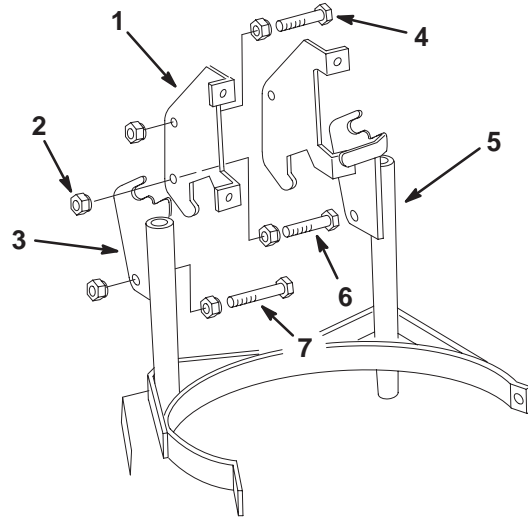

Figure 15
6. Thread locknuts partway onto the 3/8"-16 x 1-3/4" (44 mm) and 3/8"-16 x 2-1/4" (57 mm) spring anchor bolts, and onto the 3/8"-16 x 1-1/4" (32 mm) top bracket pivot bolts (Fig. 15).
7. Insert the 3/8"-16 x 1-3/4" (44 mm) upper spring anchor bolts, and the 3/8"-16 x 1-1/4" (32 mm) top bracket pivot bolts into the holes in the upper pivot brackets with the heads facing toward the inside (Fig. 15).
8. Install a second (outer) locknut on each of the four bolts so it is flush with the end of the bolt (Fig. 15).
9. Tighten the inner locknuts on the 3/8"-16 x 1-1/4" (32 mm) top bracket pivot bolts to fasten the bolts to the upper pivot brackets. Leave the inner locknuts on the 3/8"-16 x 1-3/4" (44 mm) upper spring anchor bolts loose (Fig. 15).
10. Insert the 3/8"-16 x 2-1/4" (57 mm) lower spring anchor bolts into the holes in the lower pivot brackets with the heads toward the inside (Fig. 15).
11. Install a second locknut on each of the two 3/8"-16 x 2-1/4" (57 mm) lower spring anchor bolts so it is flush with the end of the bolt. Leave the inner locknuts on the lower spring anchor bolts loose (Fig. 15).
14. When the springs are installed, tighten the inner locknuts on the upper and lower spring anchor bolts (Fig. 15).